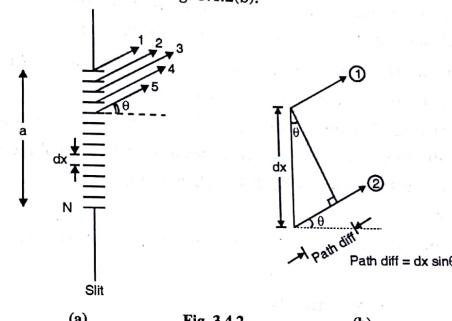

Fig. 3.4.2
- Consider the given slit to be divided into N parallel slits, each of width dx . See Fig. 3.4.2(a).
- One of such slits is shown in Fig. 3.4.2(b).
- The path difference between the rays diffracted from its upper and lower edges is $dx \cdot \sin \theta$ and hence the corresponding phase difference between them is, (refer Fig. 3.4.2(b)).
- Thus at point P, N phasors with same amplitude, same frequency and same phase difference $\Delta\phi$ between the adjacent members combine to produce the resultant disturbance. Fig. 3.4.2 shows the vector addition of such N phasors.